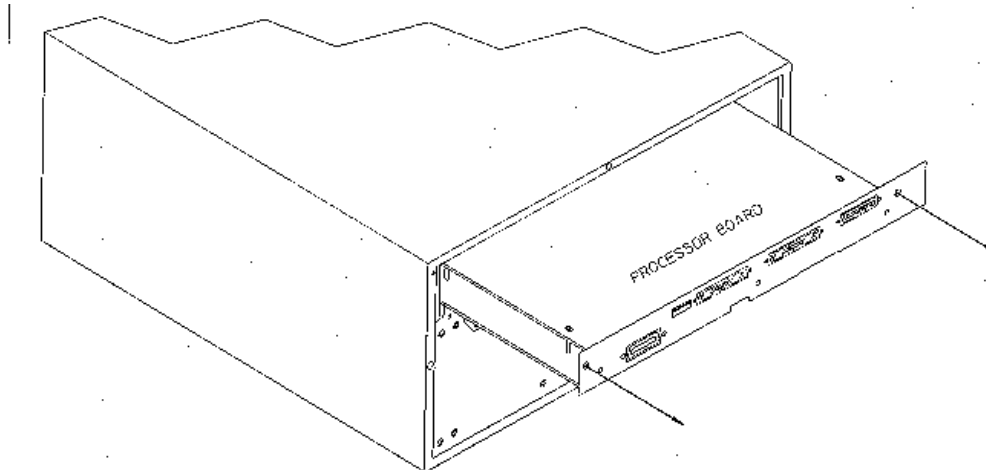

Figure 18
8. Remove the two screws marked "B" in FIG 17, securing the Processor assembly (one turn at a time alternatively) and carefully withdraw the Processor assembly as shown in FIG 18.